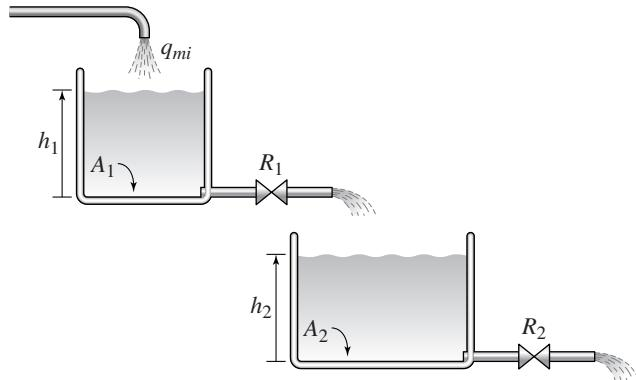

Figure P30
30. a. Use the subsystem block developed in Section 10.7 to construct a Simulink model of the system shown in Figure P30. The mass in flow rate is a step function.
33. Refer to Figure P30. Suppose there is a dead time of 10 sec between the outflow of the top tank and the lower tank. Use the subsystem block developed in Section 10.7 to create a Simulink model of this system. Using the parameters given in Problem 30, plot the heights h_1 and h_2 versus time.